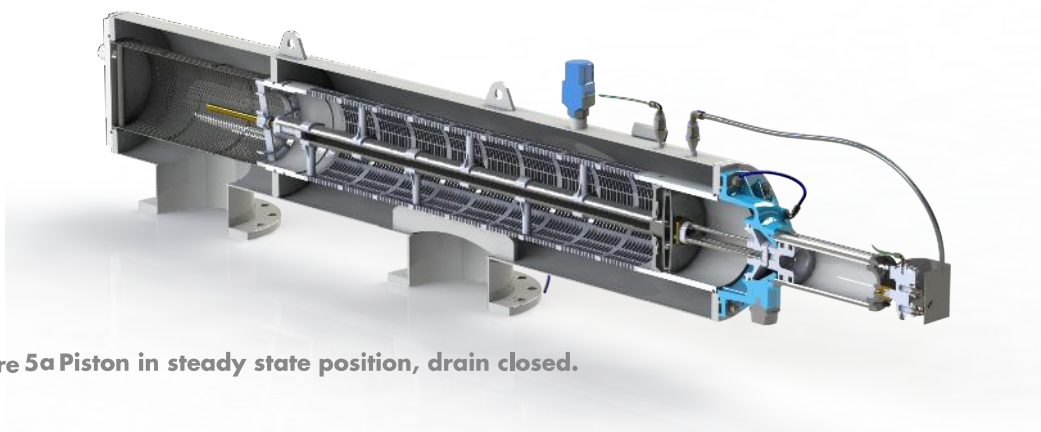

**Figure 4** Piston at end of stroke, drain closed.
- c. When the piston reaches the end of its stroke, the drain will close again, flush will pause, but is not complete. See Figure 4 below.